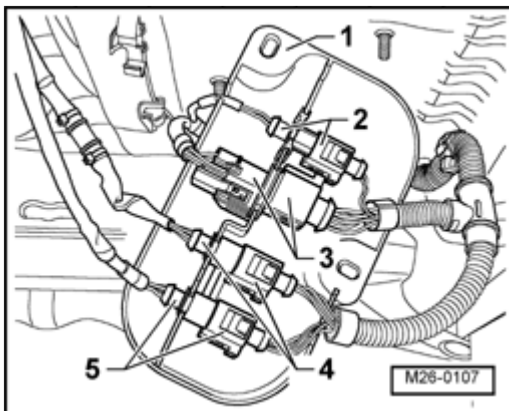

Fig. 363: Connectors, Installed Location
- Removing and installing with 3337, separate connector. See **Fig. 363**